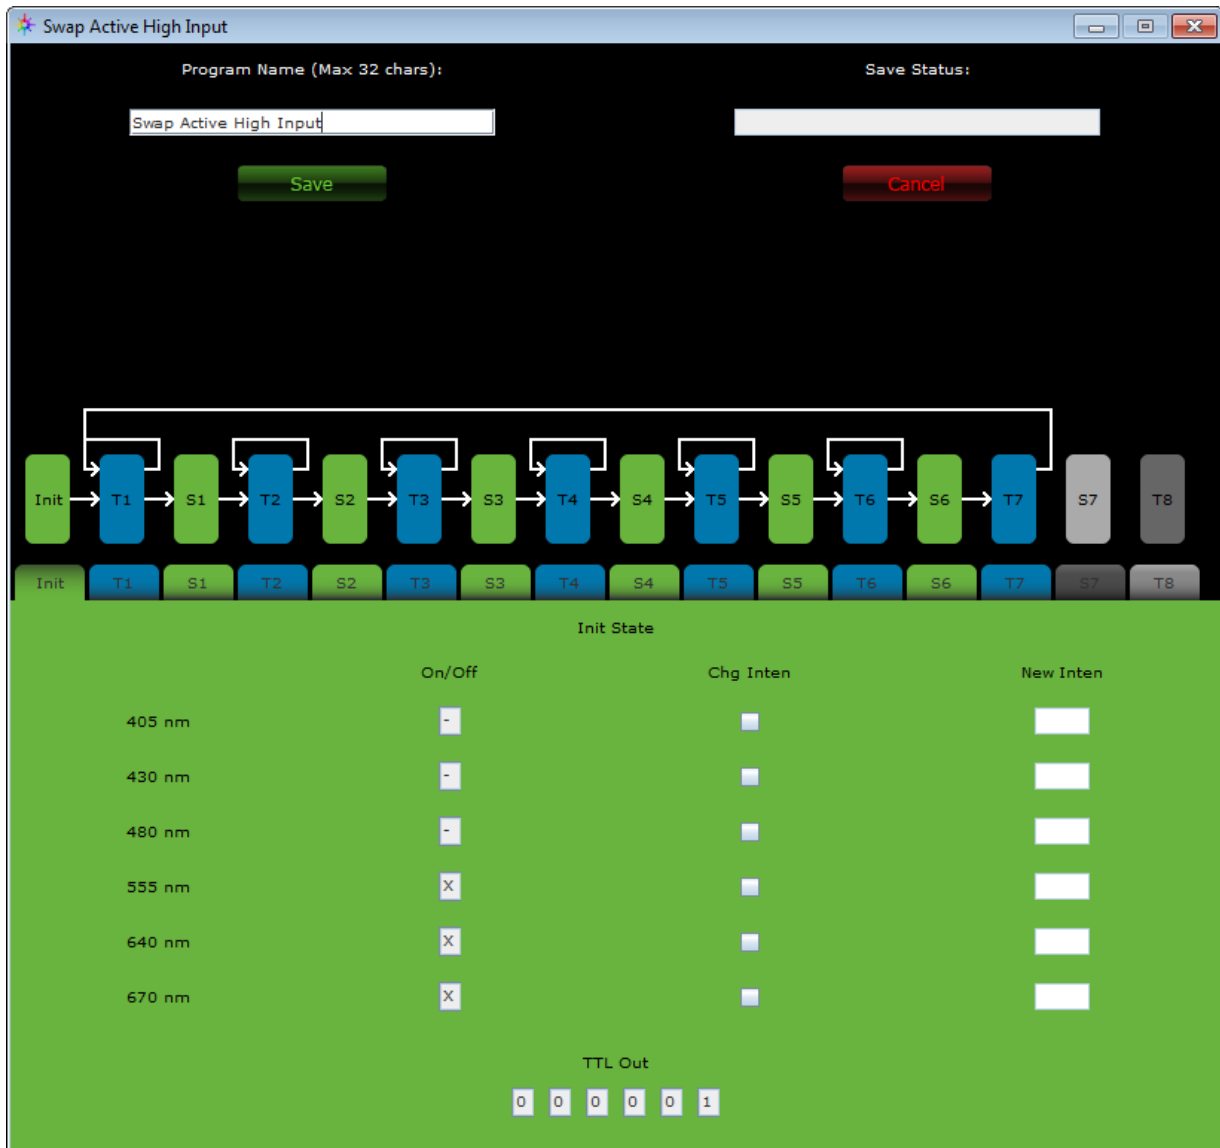

Figure 40 - Initial State
- b. State Tabs, **S1** through **S8** - The state tabs are identical to the Initial State screen described above and shown in Figure 40. These tabs allow the user to specify module operating parameters for states subsequent to the initial state. Undefined or unused states are indicated by gray tabs.